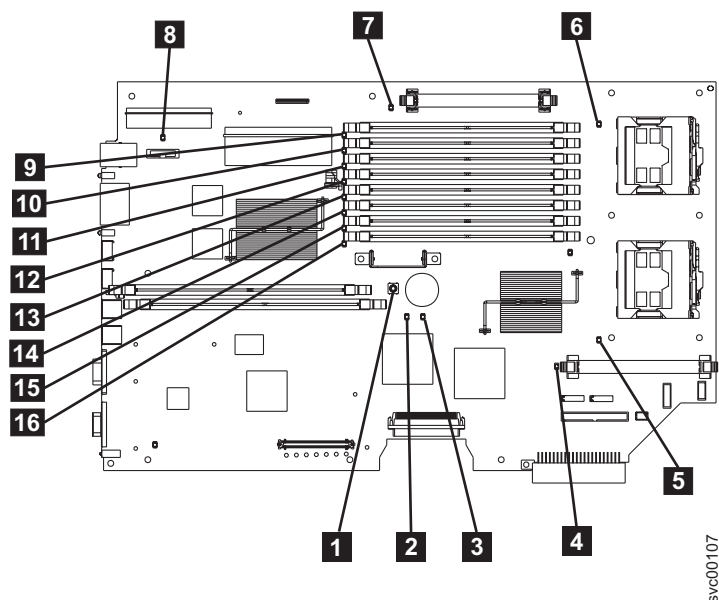

Figure 103. SAN Volume Controller 2145-8F2 and SAN Volume Controller 2145-8F4 system board LEDs
YES See Table 62 on page 265 and perform the action specified for the specific light path diagnostics LEDs, then go to step 3 on page 267. Some actions will require that you observe the state of LEDs on the system board or on the fan backplanes. The location of the system board LEDs are shown in Figure 103 on page 265. The fan LEDs are located adjacent to each FAN. To view the LEDs you will need to do the following:
- d. Press the light path diagnostics button **1**. See Figure 103 on page 265.